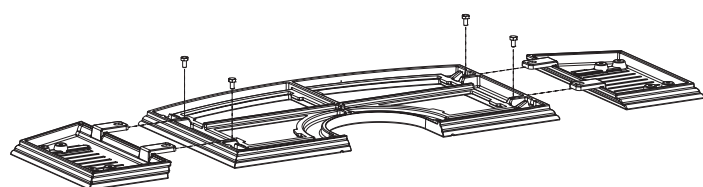

Figure 34
4. Place left and right side shelves in place shown in Figure 34.
NOTE: Due to inherent properties of the casting process, non-combustible shims may be required to level accessory side shelves to the casting top. These shims are provided in the form of washers to be used on either side of the bolts. See Figure 34. If accessory shelf angles downward, toward the floor, washer(s) will need to be added to the center side of the bolt. Conversely, if the accessory side shelf angles upward, toward the ceiling, washer(s) will need to be added to the outside of the top casting side of the bolt. See Figure 37.